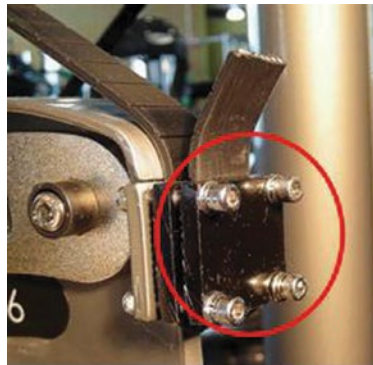

Figure 1
**Note: Three (3) squares of extra belt must show on the opposite side of the clamp when tightening bolts.**
- ▶ For belting with the “fold over” clamp (Figure 1).